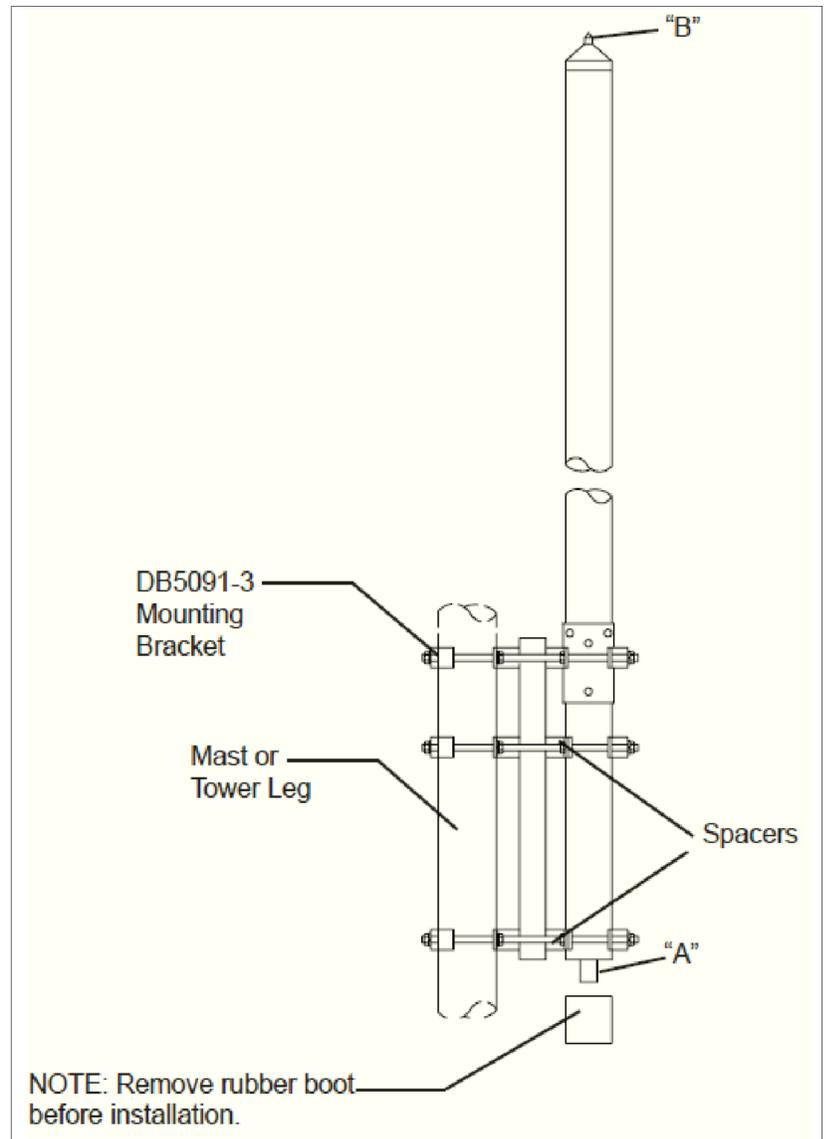

Figure 1. Antenna Using DB5091-3 Mounting Kit.
2. Remove the rubber boot before installation (Figure 1).
6. For standard upright mounting (connector end down), remove the drain plug from the connector end of the antenna (labeled "A" in Figure 1), leaving the spike end (labeled "B" in Figure 1) plugged.
For installing an antenna in an inverted position (connector end up), ensure that the drain hole at the connector end (labeled "A" in Figure 1) is plugged and the drain hole on the spike end (labeled "B" in Figure 1) is open.